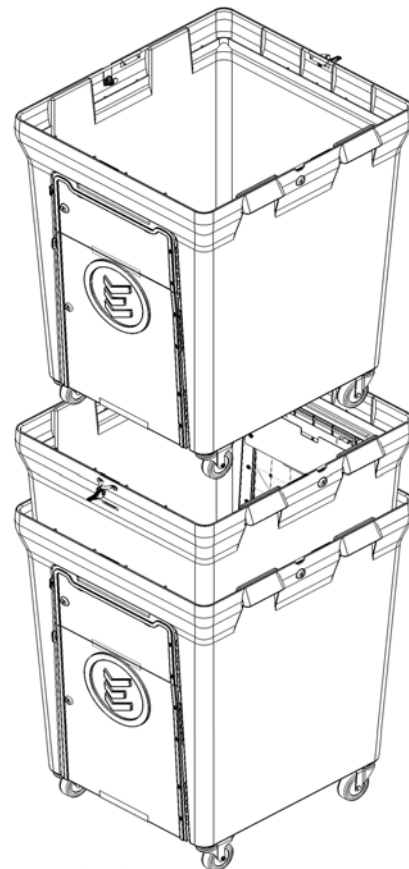

Figure 3
4. When stacking the Ballot Bins, lift the bin so that the casters clear the rim of the previous bin, move the bin over the previous bin, and lower the bin keeping the bin as vertical as possible (see Figure 3).
5. Stacked bins should be approximately ten (10) inches apart (top rim to top rim). Do not push down or press bins together. Stacking in this manner will compress the Ballot Bins and not allow for easy removal of the bins. Use materials such as the spacer packaging that was shipped with the DS200 Ballot Bins or other materials that will not compress, and that will keep the Bins approx. 10 inches apart; rim to rim.
6. If packaging is not available to space the DS200 Ballot Bins 10 inches apart, then only three (3) DS200 Ballot Bins can be stacked together. In this situation, follow Step 3. Note that the Ballot Bins are alternated 180 degrees so that the doors are opposite each other.